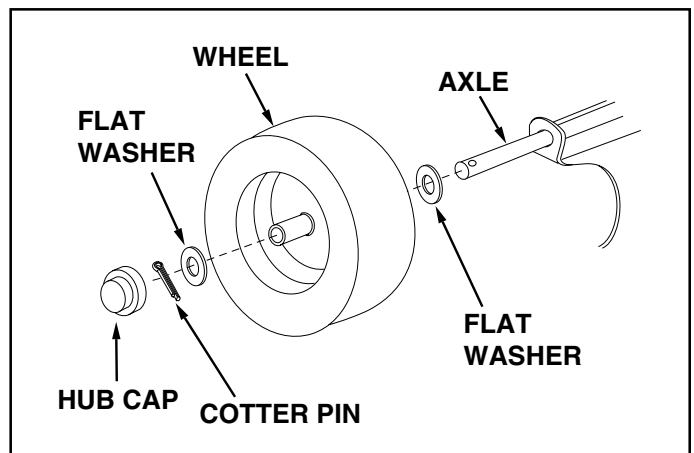

FIGURE 12
- Assemble a flat washer, a wheel with the valve stem facing out, and another flat washer onto the axle as shown in figure 12. Secure the wheel on the axle with a cotter pin, spreading the ends. Assemble the hub cap by pressing it onto the flat washer. Repeat on other end of axle.